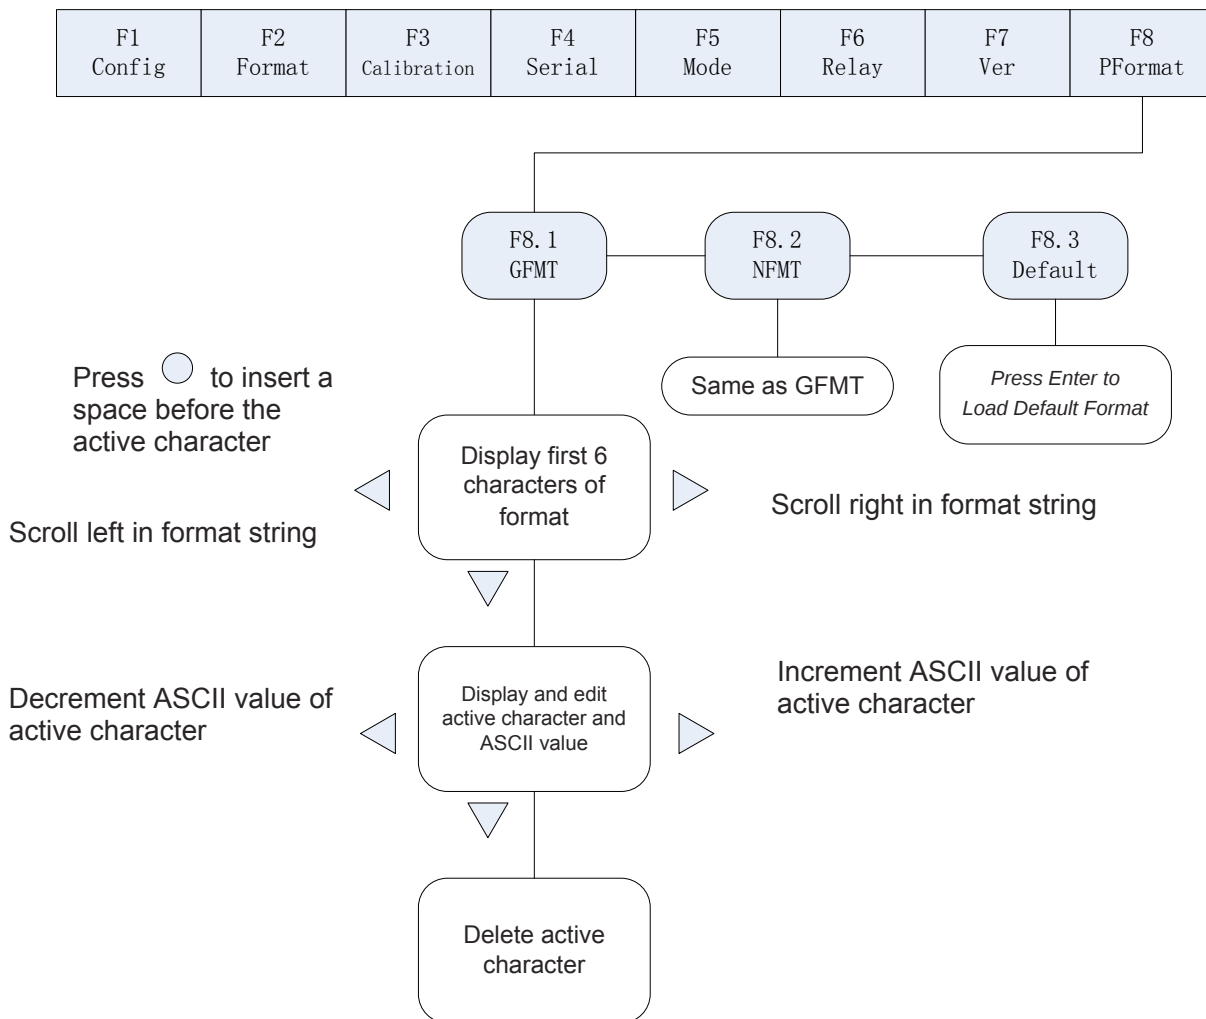

Fig. 7-1 Print Format Input Flow Diagram
- (1) Set indicator to Configuration mode (display shows “F 1”)
- (2) Press to show “F 8” (see Fig. 7-1). Press to Print Format Menu and display shows “F 8.1”.
- (3) When display shows “F 8.1”, press again and display shows the first 6 digits of GFMT format.
- (4) Use , to move the cursor to different flashing digits. When it is at the far right position, press again, the first digit at the left is removed and another digit prompts up at the right. When it is at the far left position, press , the last digit at the right is removed and another digit prompts up at the left. Press to add a space to the left of the flashing digit.
- (5) When the cursor at a certain digit position, press ▼ to edit. Display shows the characters as shown in Appendix 9-5. "-" is shown for characters not available in Appendix 9-5.
- (6) When complete character editing, press ▲ to return to (4) above and to perform editing other characters. When finish editing, press ▲ to return to F8.1 and display shows "F8.1".
- (7) Press ► to go to F8.2 Menu and display shows "F8.2". Refer to (3) to (6) for format editing of NFMT.
- (8) After finishing, turn off the J1 switch to exit from the configuration mode and enter into weighing mode.
- (1) Set indicator to Configuration mode and display shows "F1".
- (2) Press ► until display shows "F8" (see Fig. 7-1). Press ▼ to go to Print output menu and display shows "F8.1".
- (3) When display shows "F8.1", press ► twice and display shows "F8.3".
- (4) When display shows "F8.3", press ○ to show "Set?". There are 2 options then:
- (5) Turn off the J1 switch to exit from the configuration mode and enter into weighing mode.